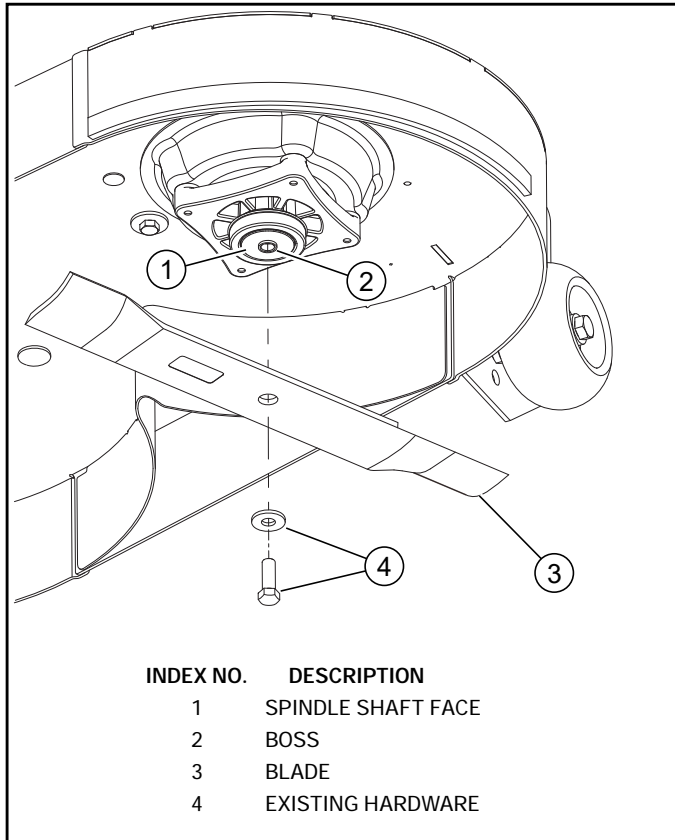

FIG. 1
3. Remove the existing blades. Retain the hardware. Fig. 1
**NOTE:** The spindles have a 5/8" diameter boss that centers the blades on the spindles. When installing the blades, make sure the blade is centered on the boss and seated flat against the spindle shaft face. Fig. 1